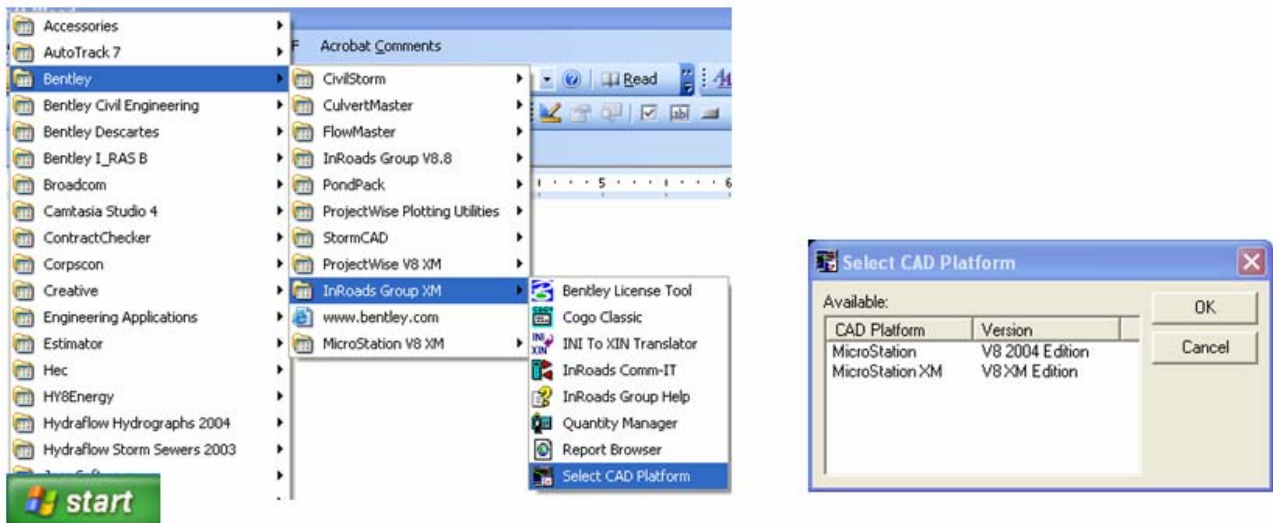

Figure 1-2 Setting the MicroStation Platform
- B. From the windows start button, Select **Programs > Bentley > InRoads Group XM**. Data Point “Select CAD Platform” (see Figure 1-2).